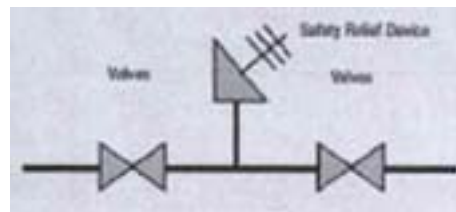

Figure 1: Use of Pressure Relief Device to help prevent over-pressurization due to vaporization of trapped liquid
2. All cryogenic liquids produce large volumes of gas when they vaporize. For example, one volume of liquid nitrogen vaporizes to 694 volumes of nitrogen gas at 68°F (20°C) at 1 atm. A cryogenic liquid cannot be indefinitely maintained as a liquid even in well-insulated containers. If these liquids are vaporized in a sealed container, they can produce enormous pressures that could rupture the container. For this reason pressurized cryogenic containers are normally protected with multiple devices for over-pressure prevention. Common pressure-relief devices are a pressure-relief valve for primary protection and a rupture disc for secondary protection. All sections of equipment that may allow for the liquid to become trapped must be protected by a pressure-relief device as shown in Figure 1. The product vented by these relief devices should be routed to a safe outdoor location.